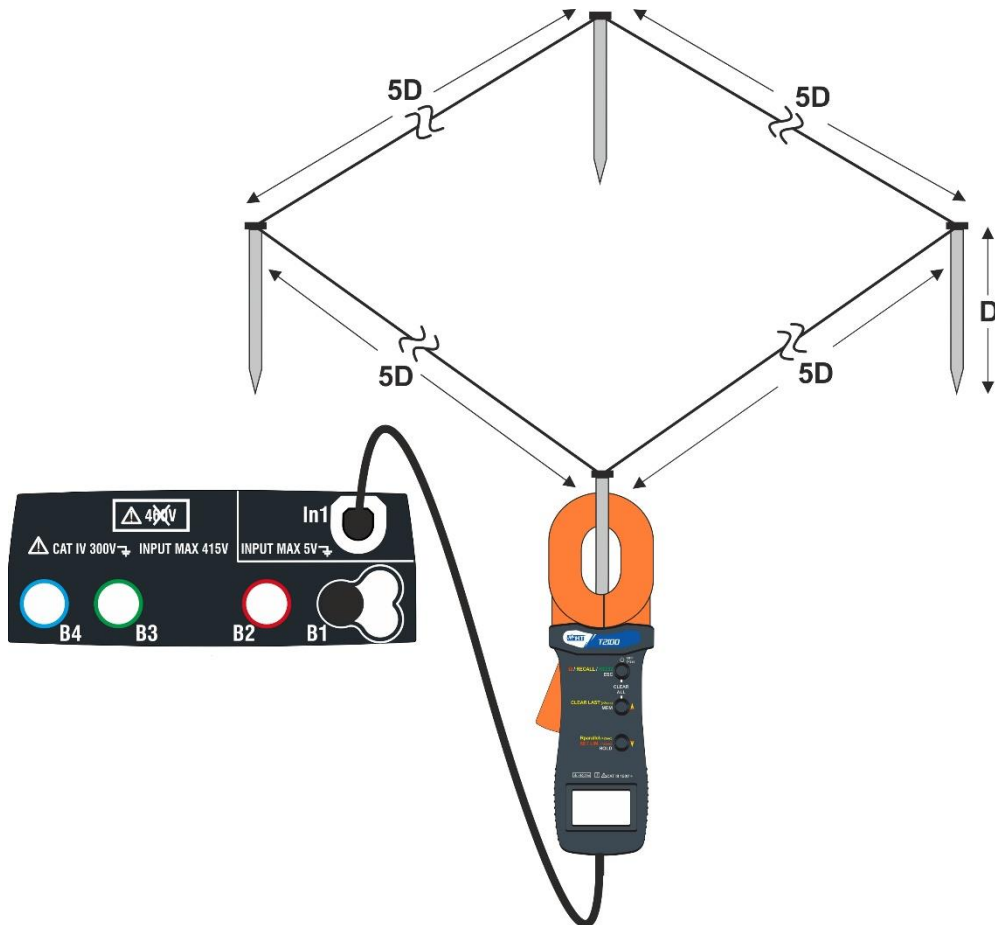

Fig. 32: Resistance measurement of single rods with clamp T2100
The measurement carried out by clamp T2100 can be used to evaluate single rods resistance values within an earth installation without disconnecting the rods, **assuming they do not affect each other** (see Fig. 32).
4. Connect the clamp to the first rod of the earth network considered as shown in Fig. 32. Note the value of the resistance in the **R** field and press the  icon to insert this value in the calculation of parallel resistance and increase the **N** parameter by one unit (**N** =1)